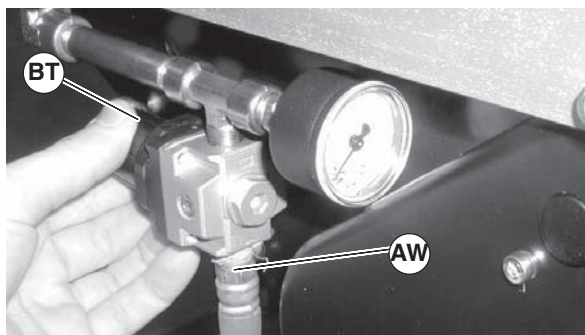

Figure 43
1. Connect air supply (Figure 43, item AW) to regulator (BT).
2. Adjust regulator (Figure 43, item BT) until gage reads the appropriate pressure. Adjust regulator starting at 15 psi sufficiently to keep belt from slipping up to the maximum shown in the following table.